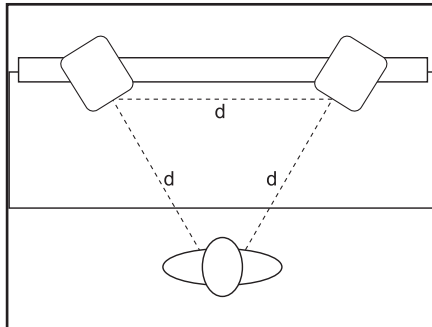

Figure 3
- *Near-Field Configuration* – In a control room situation, the monitors are often placed on the meter bridge or in a close-field listening position. Initial placement starts by measuring out a simple equilateral triangle (all three sides equal in length) with the apex at the center of the listening position as an “overlay” for the stereo installation. In this configuration, the Left and Right monitors are each placed at a  $60^\circ$  angle, equidistant from the listening position. (Figure 3)